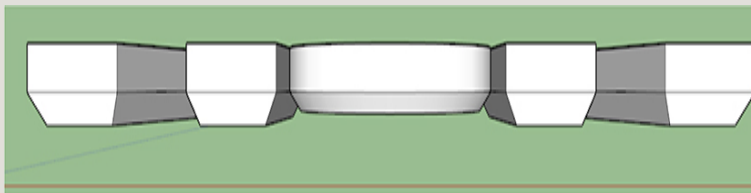

Figure 3-99 Move the three letters together, and intersect their faces, if needed.
7. Move all three letters so that they touch (Figure 3-99). Remember, they need to be grouped separately or they'll stick together.